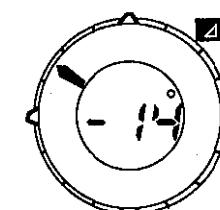

Fig. 2-13 The Example of Indication
- 5) The figure 2-13 show the example of course error -14 degrees.